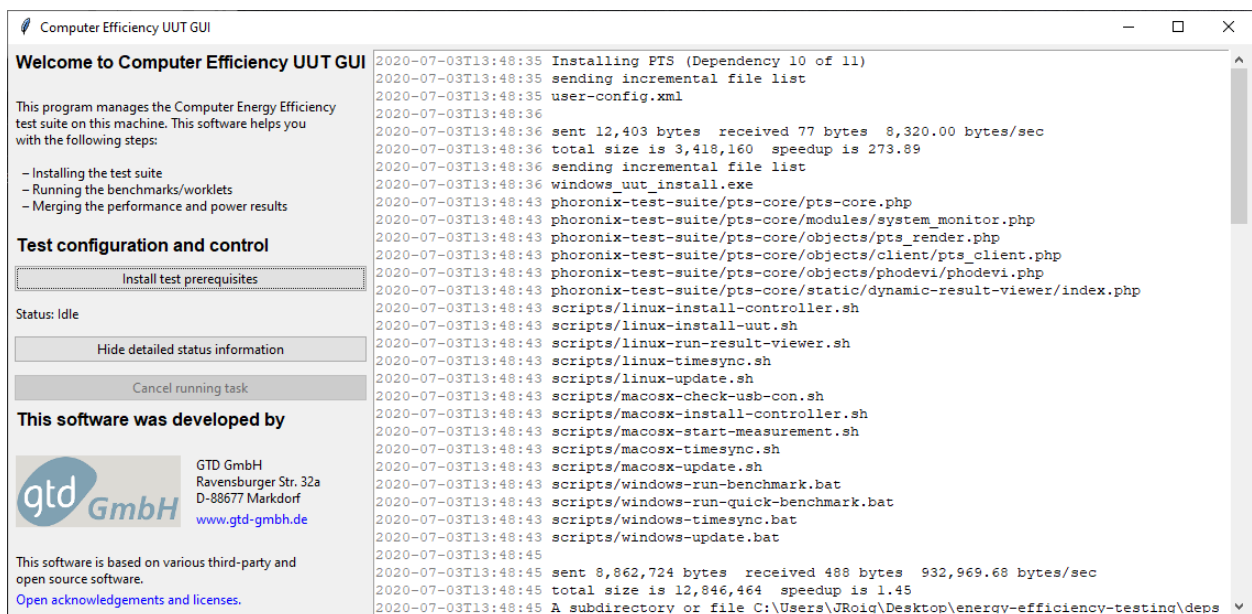

Figure 7.4: Test Suite installation GUI with terminal deployed
- Click on “Install test prerequisites”. You can check the current status of the installation on the “Status” field on the bottom left side of the GUI. If you want more detailed information, click “Show detailed status information”. A text box containing more log messages is then presented (see Figure 7.4)
- Click "Install test prerequisites". You can check the current status of the installation on the "Status" field on the bottom left side of the GUI. If you want more detailed information, click "Show detailed status information". A text box containing more log messages is then presented (see Figure 7.4)
- Click on "Install test prerequisites". You can check the current status of the installation on the "Status" field on the bottom left side of the GUI. If you want more detailed information, click "Show detailed status information". A text box containing more log messages is then presented (see Figure 7.4)